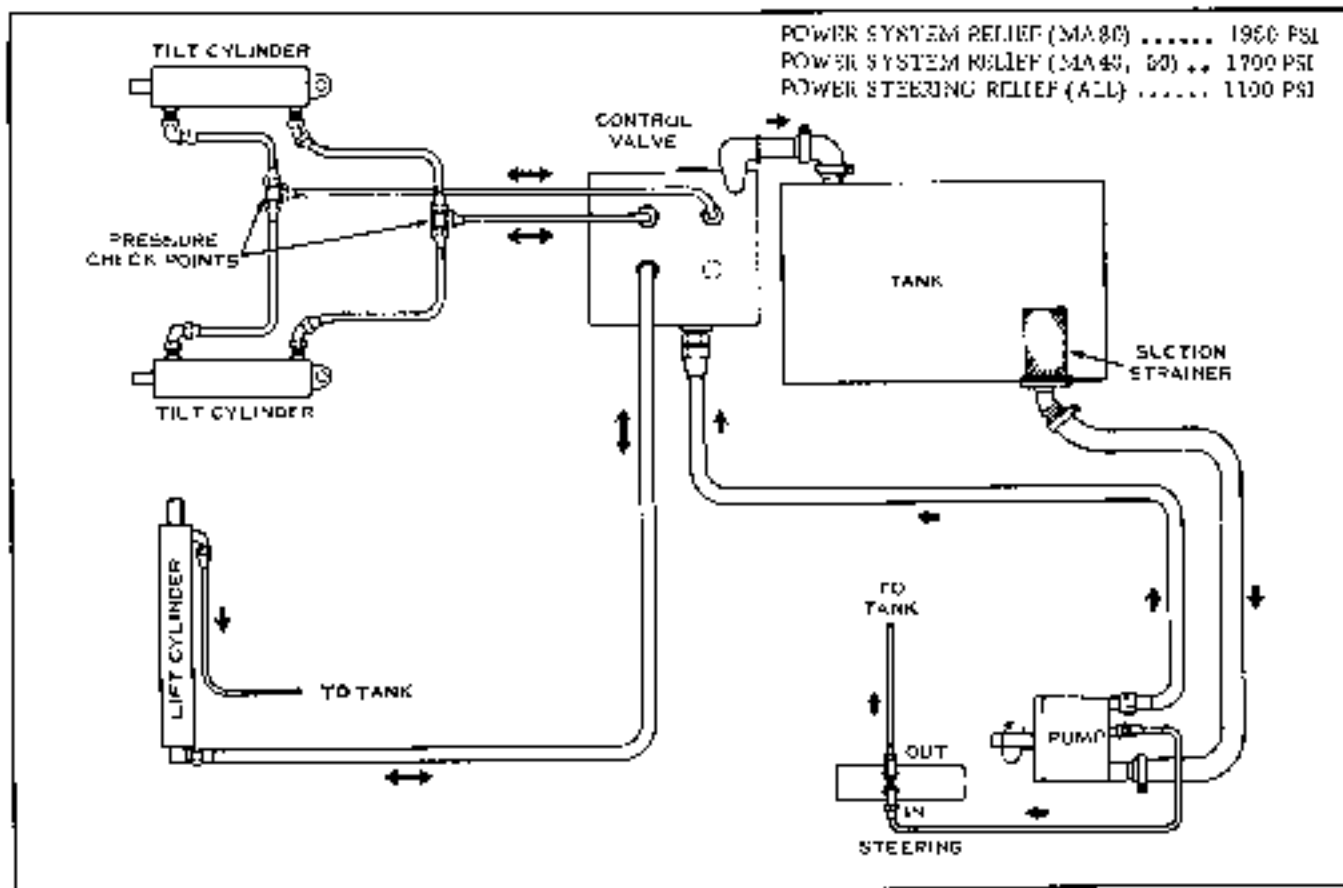

Fig. 1-3. Hydraulic flow diagram
- d. If the nature of the load permits, pull back on the tilt control lever (5, figure 1-3) to tilt the load to the rear to prevent it from slipping off the forks.